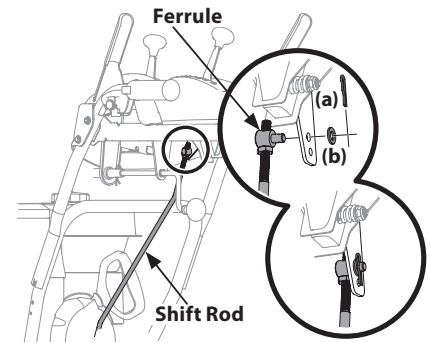

Figure 2-26
8. Remove cotter pin (a) and washer (b) from ferrule on end of shift rod. See Figure 2-26 inset.
10. Insert ferrule into top hole of shift lever and secure with cotter pin (a) and washer (b) removed in Step 8. See Figure 2-26. Ferrule may need to be adjusted up or down.